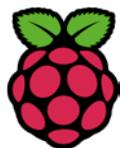

Figure 9 Start the writing to the SD card process by clicking WRITE button.
Step 5) – Review all options and settings and click on WRITE to start the writing of the OS to the SD card. See Figure 9.